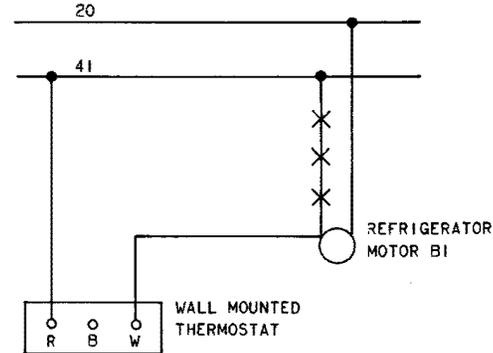

Fig. 13—L101 Low Ambient Temperature Modification Kit Installation
2.29 The L101 modification kit is installed as follows (see Fig. 13 and 17):